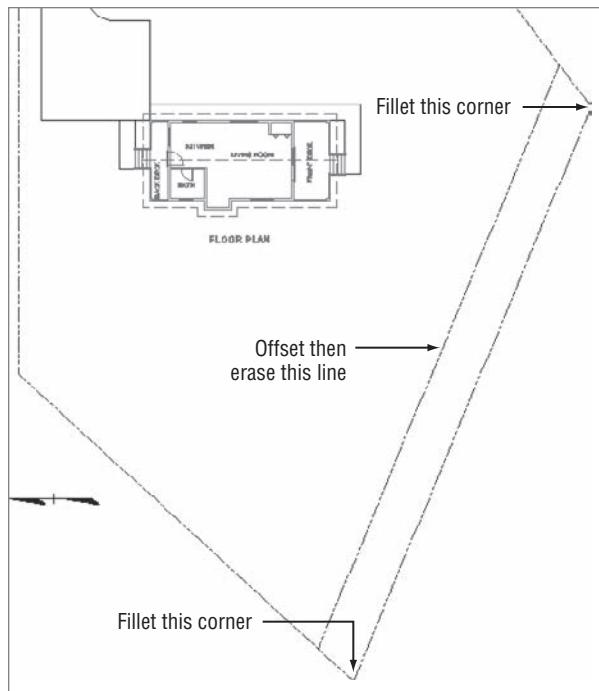

FIGURE 13.26 The new property line created in the externally referenced site plan
7. Make the \$0\$C-PROP-LINE layer current, and then offset the lower-right diagonal property line 10'-0" (3048) to the right (see Figure 13.26).
8. Fillet the two lines that intersected with the line you just offset to the newly created line using a radius of 0. Erase the original line (see Figure 13.26).